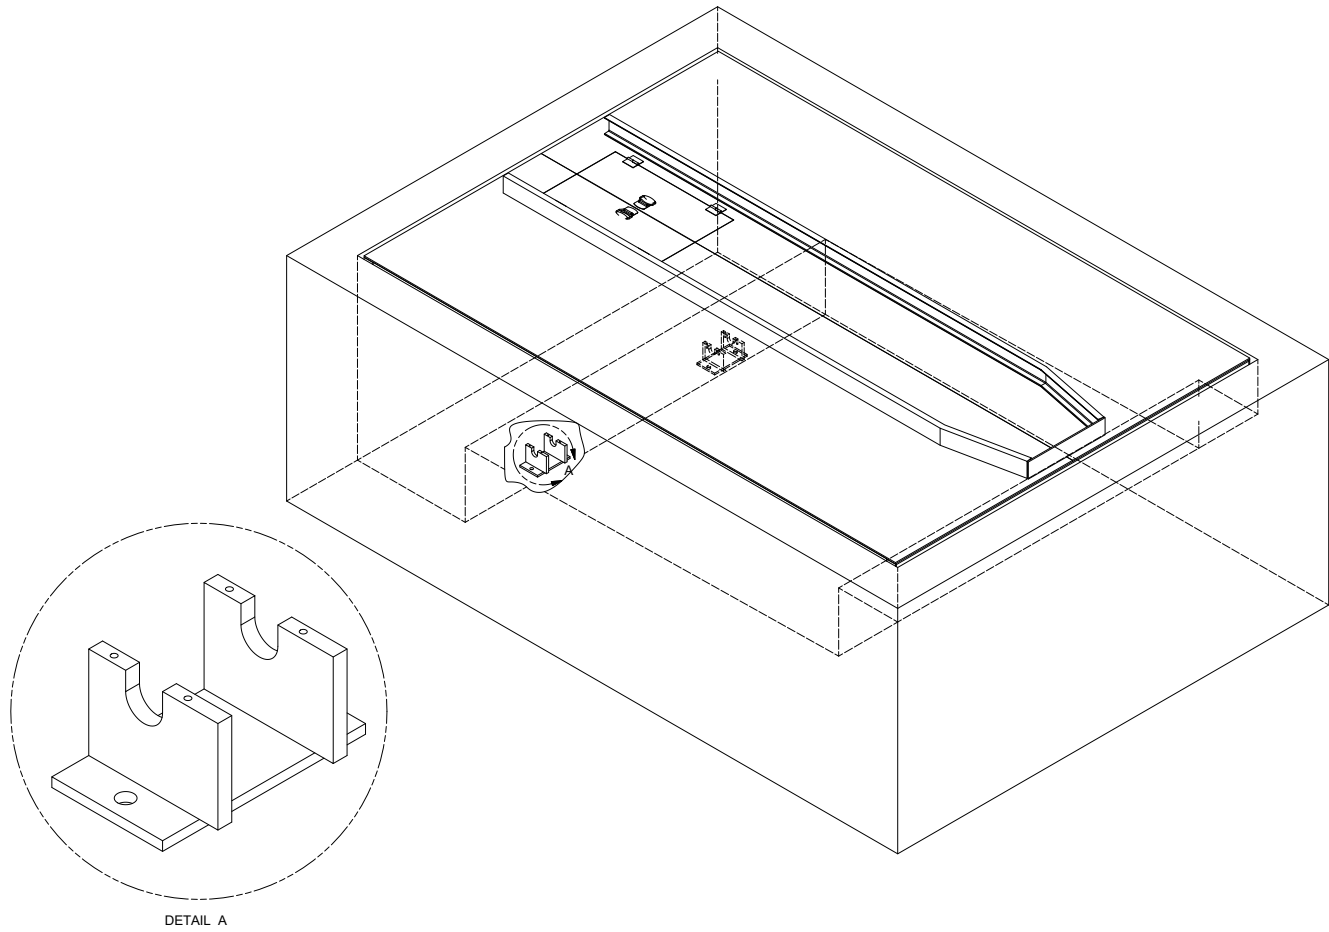

Figure 7
1. Locate and anchor the hydraulic cylinder trunnions according to the layout drawings provided by Systems, LLC. Orient the trunnion with the longer side pointing away from the dock face as shown in Figure 7; use minimum 5/8" x 5" anchor bolts. Torque all anchors to the vendor specifications.